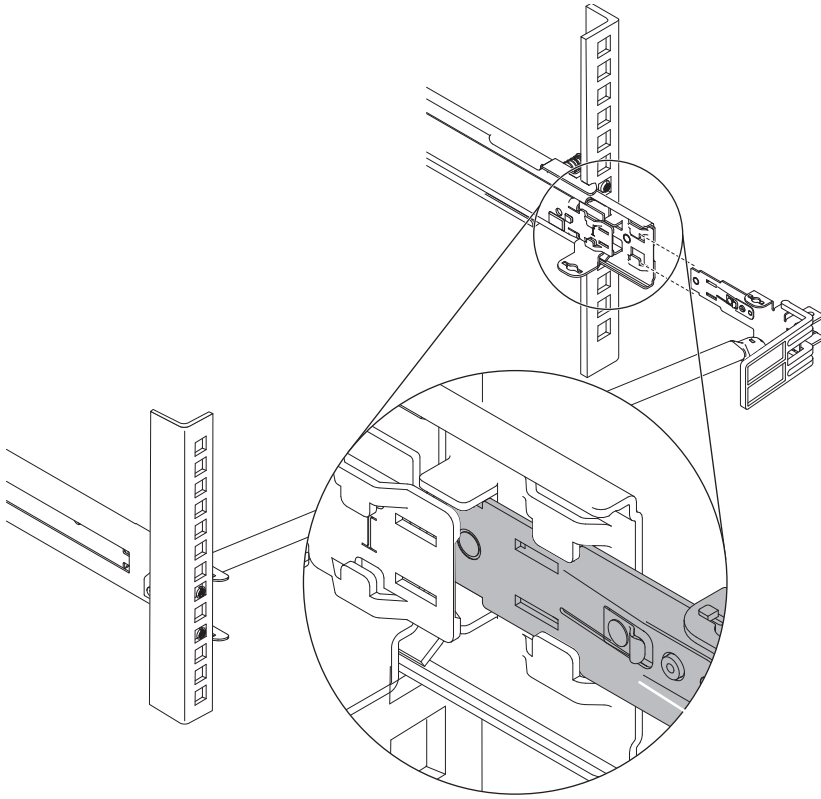

Figure 29. Connecting the stop bracket to the slide rail
3. Connect the stop bracket to the slide rail, as shown in Figure 29 on page 40.